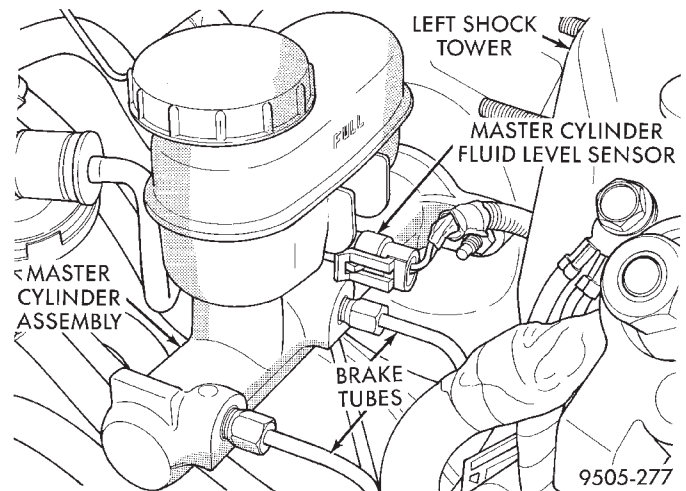

Fig. 111 Master Cylinder Brake Fluid Level Sensor
(9) Remove the vehicle's wiring harness connector from the master cylinder brake fluid level sensor (Fig. 111).
(11) Install the vehicle's wiring harness connector on the master cylinder brake fluid level sensor (Fig. 111).